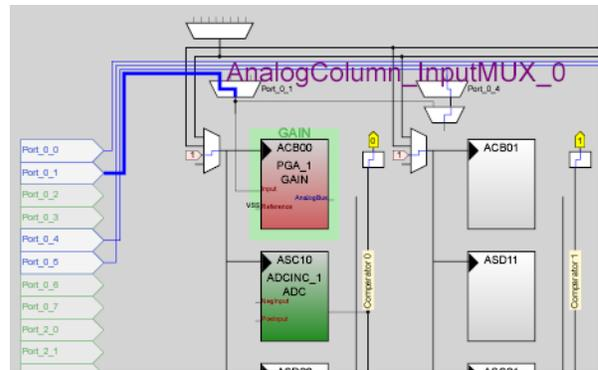

Figure 14. Input Mux
- **Input** is set to AnalogColumn_InputMux_0. This mux can be connected to any of the odd pins on port 0 (P0[1], P0[3], P0[5], or P0[7]), simply by clicking on the mux in the diagram, see Figure 14. By default this will connect the input of the PGA to pin P0[1]. This can be changed by clicking on the mux symbol above the PGA symbol.